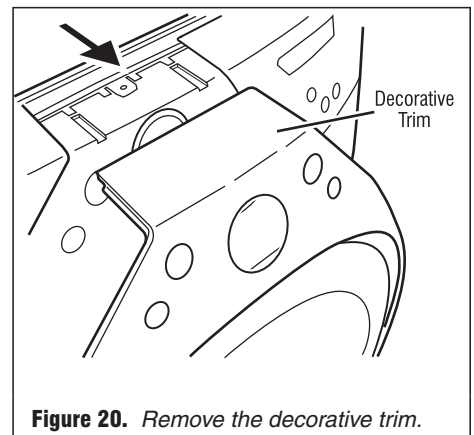

Figure 20. Remove the decorative trim.
3. Gently remove the decorative trim that surrounds the door and upper console by unsnapping it from the machine. See figure 20.